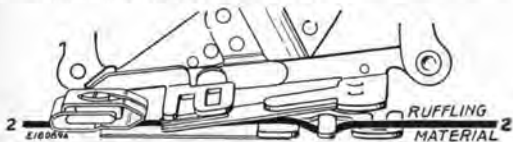

FIG. 70. CORRECT POSITION FOR THE MATERIAL
- (2) Insert the material to be plaited between the two blue blades **Line 2**, Fig. 70.